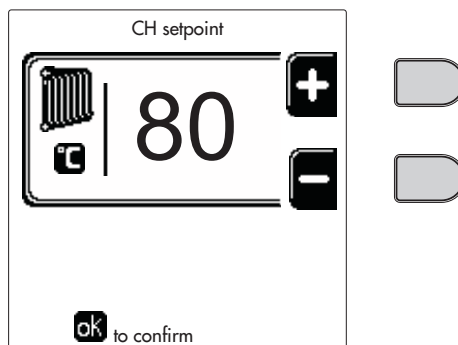
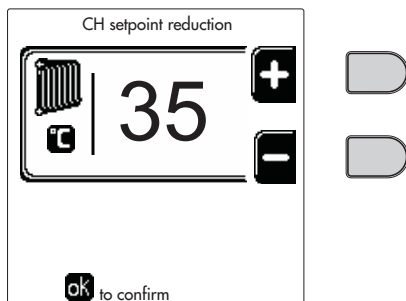
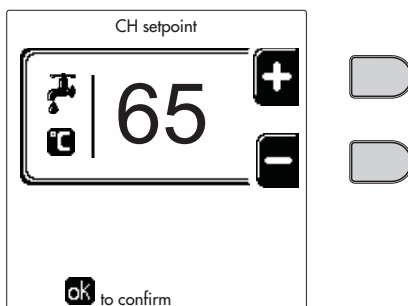
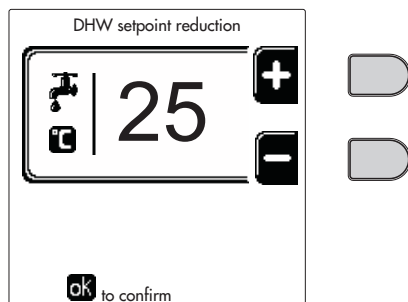

fig. 12
fig. 13
fig. 14
fig. 15
- **ON**. In case of a Heating/DHW demand, the boiler works at the set Heating/DHW (fig. 12/fig. 14) Adjustment Temperature.
- In case of a Heating/DHW demand, the boiler works at the Reduced Adjustment Temperature. The Reduced temperature is obtained by subtracting the Reduction Adjustment Temperature value (fig. 13/fig. 15) from the set Heating/DHW Adjustment Temperature (fig. 12/fig. 14).